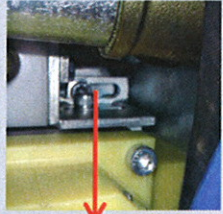

Figure 4
- 4) Loosen the bolts (two bolts on figure 4 part 4 and one bolt on figure 5) and move exit box up or down to set axis line.